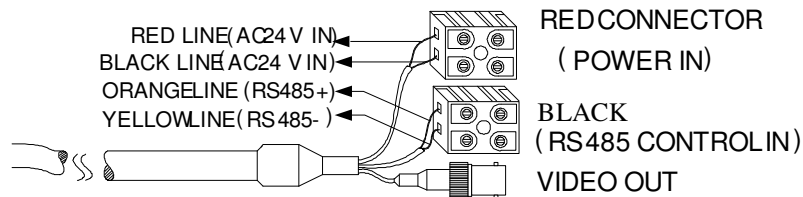

Figure 14
- 1) See labeling of the system line for mains lead connection (Figure 14).